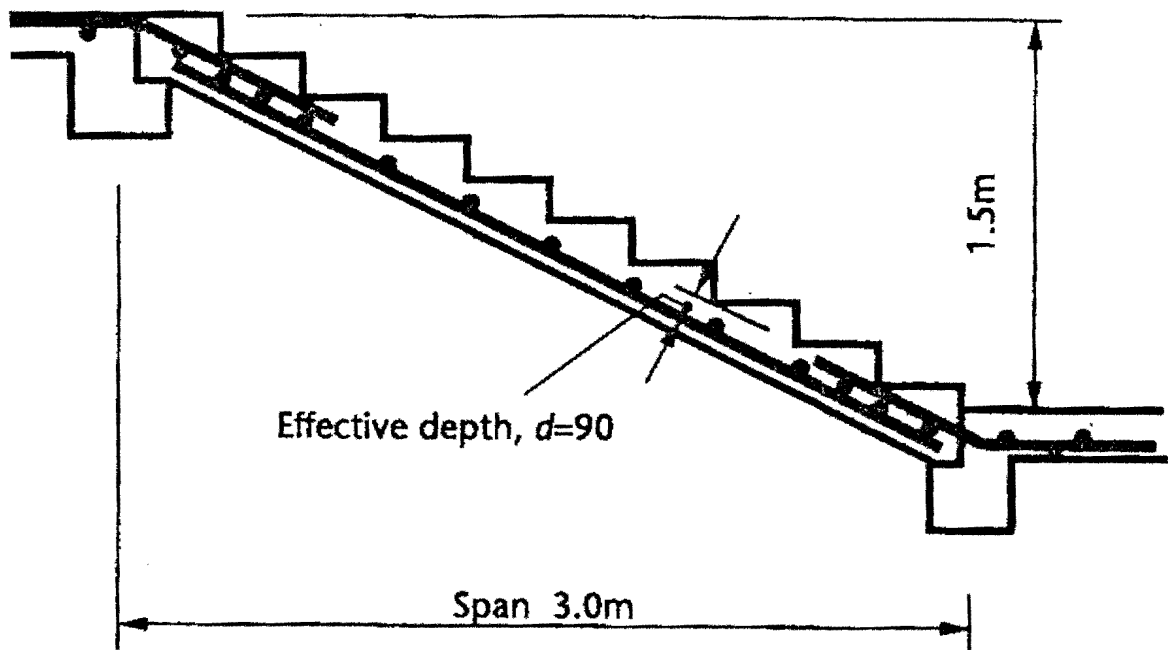

Figure 3
- b) The stairs are of the type shown in Figure 3 spanning longitudinally and set into pockets in the two supporting beams.